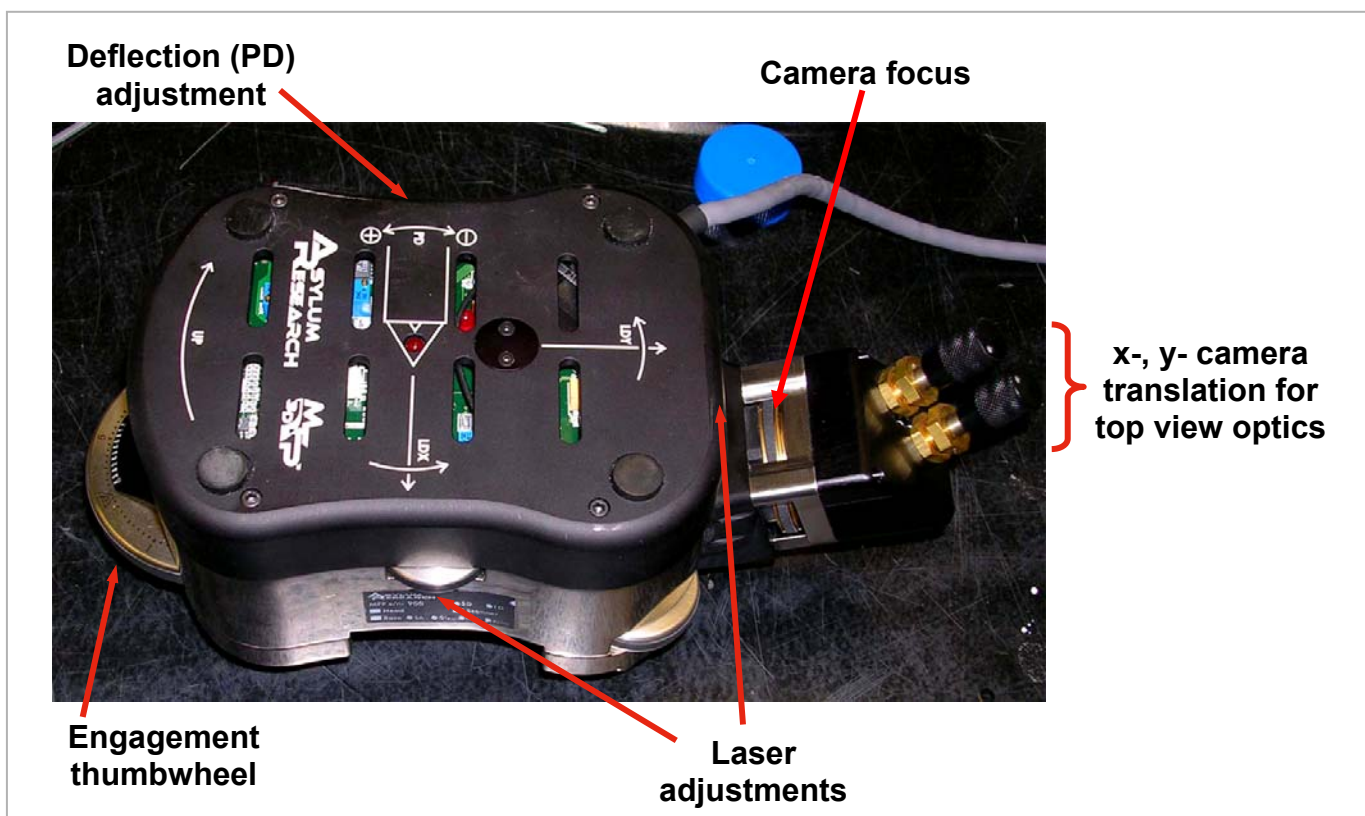
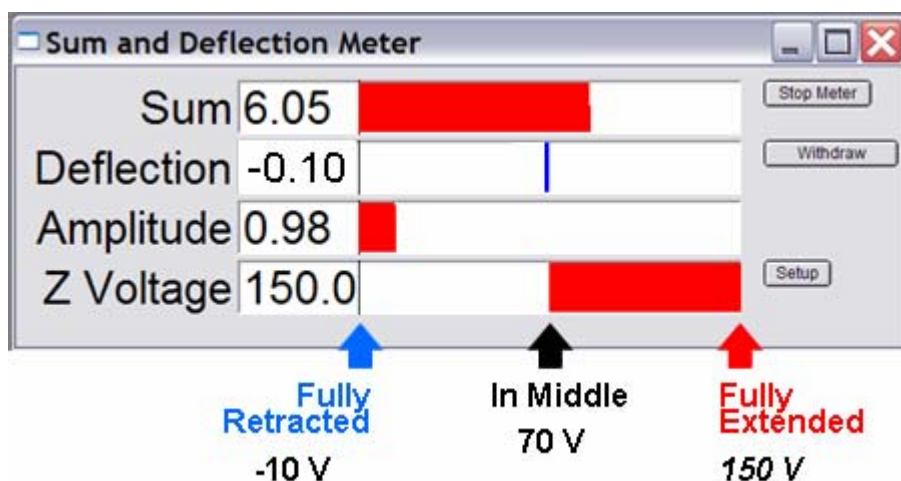

Figure 2: MFP-3D head and its thumbwheel locations (top down view model shown).
Figure 4: Sum & Deflection Meter (all values in volts);
- The top of the MFP-3D head is conveniently labeled (Figure 2). The thumbwheel on the right moves the laser along the length of the cantilever, while the one on the back of the head moves it across the cantilever. The head has arrows indicating which way the laser will go as they are moved CCW.
- ✓ Move the beam forward a bit until you see it (2); *At this point, the laser is just past the edge of the chip*
- ✓ Next, move the laser perpendicular to the length of the cantilever (3). When you encounter the cantilever, you will see the 'Sum' voltage signal increase.
- ✓ At this point, use both laser alignment thumbwheels to maximize the 'Sum' voltage (4). *Incidentally, the IR card needs to be moved occasionally to find a 'fresh' area that will glow.*
2) **Laser Alignment via top view optics CCD:** -Turn CCD camera on (look for ccd icon on lower left of MFP-3D software); focus camera on tip using focus adjustment wheel on back of AFM head. The two knobs in the back of the head are for x- and y- position adjustment of the camera; the large wheel in the housing is for focus. **CCW focuses down, CW focus up** (in the plane of the tip). See Figure 2 for location of adjustment knobs on MFP3D head.
Adjust Photodector (PD): Use the thumbwheel on the left side of the head (Figure 2) to adjust the PD, whose value is seen in the Sum & Deflection meter (Figure 4). This meter window is set up rather conveniently: If you have red in the deflection meter, you need to go negative to adjust to ca. zero. The top of the head is labeled to tell you what way to go (positive or negative). When aligning the laser, just pay attention to the Sum and Deflection meter voltage values.
- Figure 4 shows the piezo fully extended anticipating set point to be achieved
Tip Engagement: Click 'Simple Engage' in the Sum and Deflection window (Figure 4). You will notice the z-piezo voltage maximizing all the way red (150 V), indicating the z- piezo is fully extending in anticipation of engagement of feedback servo.